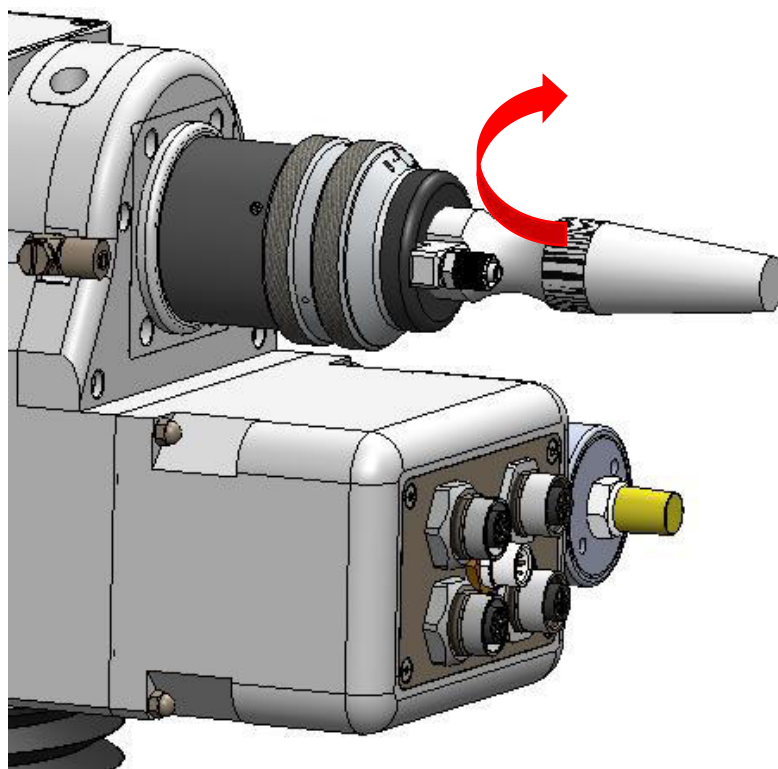

Figure 2.9
⑤ Turn the QBH connector to the locked state, that is, screw it toward the limit position clockwise (a "thud" sound can be heard). Then lift the swivel nut up and screw the nut clockwise again until the fiber tip is compressed tightly. (Clockwise: toward the direction of the "locked" icon). (Do not twist with great force, otherwise the internal structure of the QBH may be damaged, as shown in Figure 2.9.